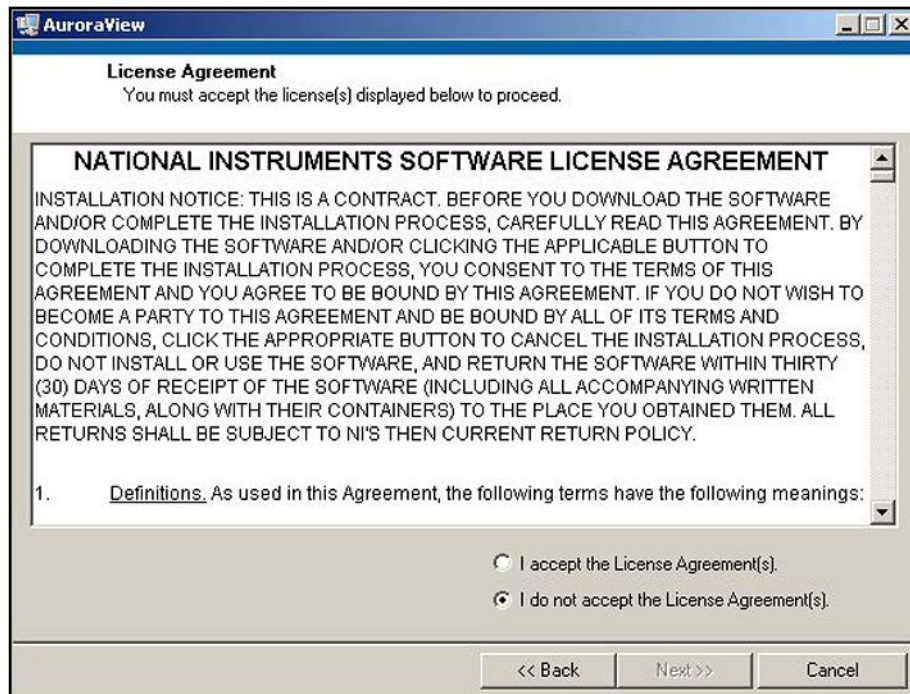

Figure 24: Software License Agreement
6. At the next screen, accept the *Software License Agreement* (see *Figure 24* below) and click **Next**.